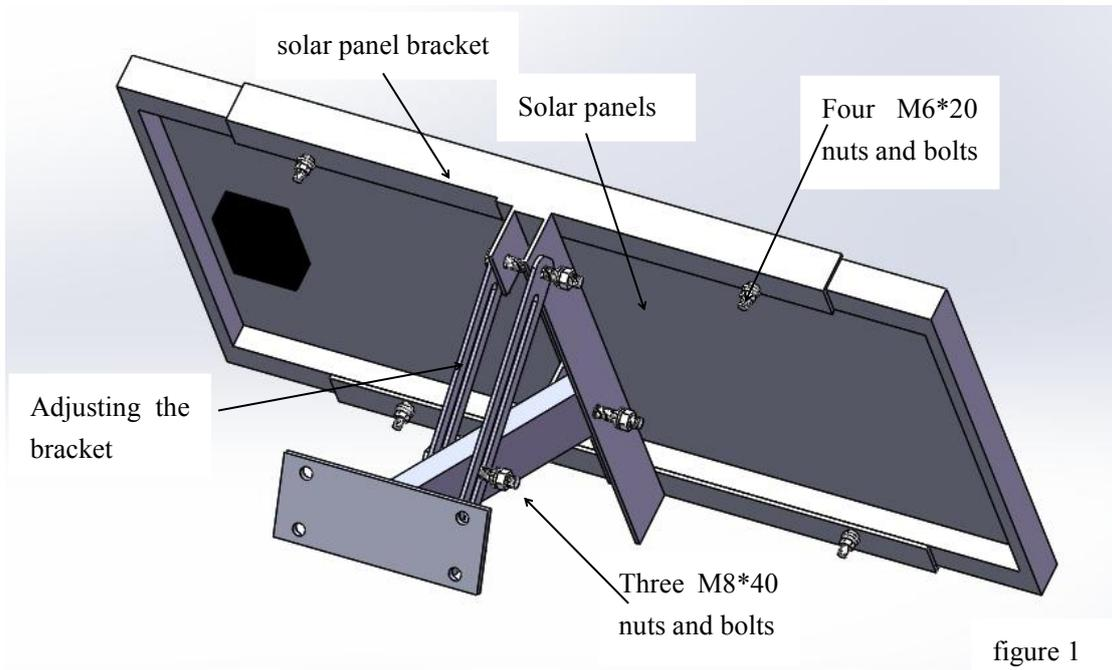

figure 1
2. For solar panel installation, use M6*20 bolts and nuts (including flat washers) to fix the solar panel and the solar panel bracket together, as shown in Figure 1.
3. For the overall assembly of the solar panel bracket, use three M8*40 bolts and nuts (including flat washers) to connect the solar panel bracket cross arm, adjustment bracket, and solar panel bracket together, as shown in Figure 1.